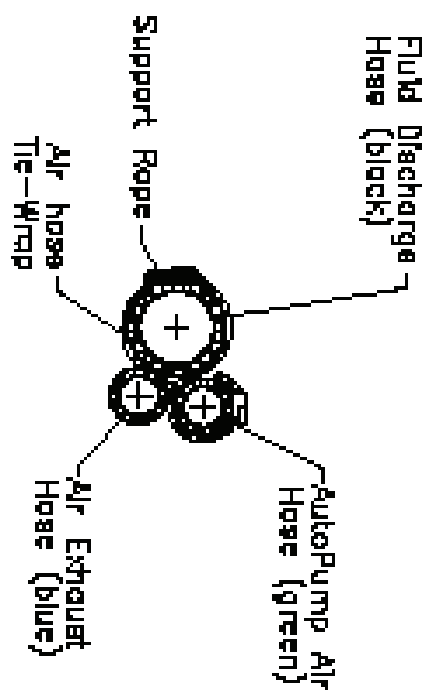

Figure 15 - Hose Bundling: Part 2 of 2
(See Figure 14 on page 34, and Figure 15 on page 35)
- STEP 4 -** Starting at the AutoPump end of the hose, put a tie-wrap through the center of the braided support rope just above the uppermost quick-connect or barb on the AutoPump. **(See Figure 14 and Figure 15)**
- STEP 5 -** Pulling the rope taut, put the tie-wrap around the fluid discharge hose with the rough surface outwards. Cross the ends and complete the figure-8 pattern by securing the ends around the exhaust hose. When you connect the tie-wrap make sure it is straight and is not kinking the hoses. **(See Figure 14 and Figure 15)**